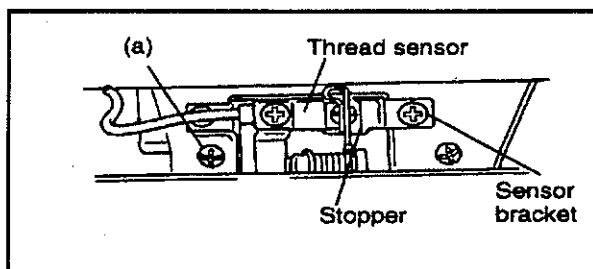

FIG.4
- (1) Temporarily secure the thread sensor with retaining screw (a). Allow the bottom end of the sensor to slightly contact the sensor bracket stopper and tighten retaining screw (b) (Fig.4).